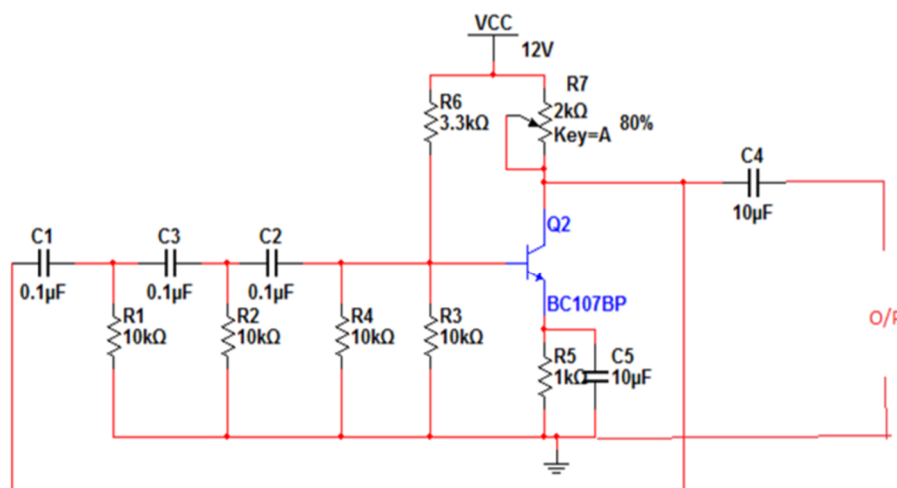

Fig. 1: Phase Shift Oscillator using BJT
1. Make the connection as per the circuit diagram as shown above figure 1.